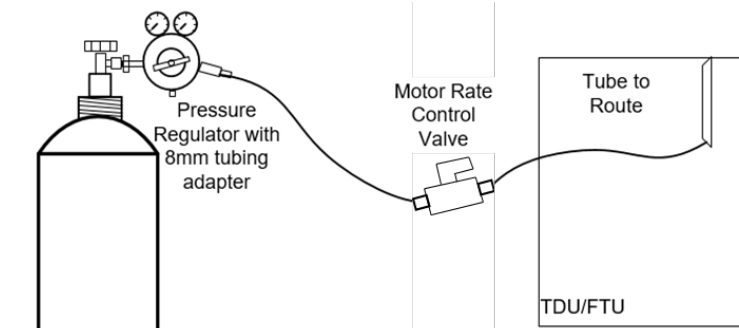

Figure 6
4.7 Attach jumper tubing from motor rate control valve to the designated route for 72 fiber bundle installation. Tubing and equipment should look like Figure 6 on the next page.